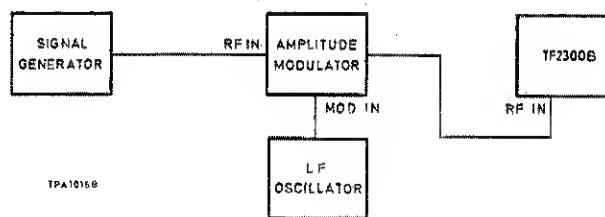

Fig. 4.7 AM rejection measurement
- (1) Set up the equipment as shown in Fig. 4.7. Adjust the signal generator to give a c.w. output of 100 mV at any convenient frequency.